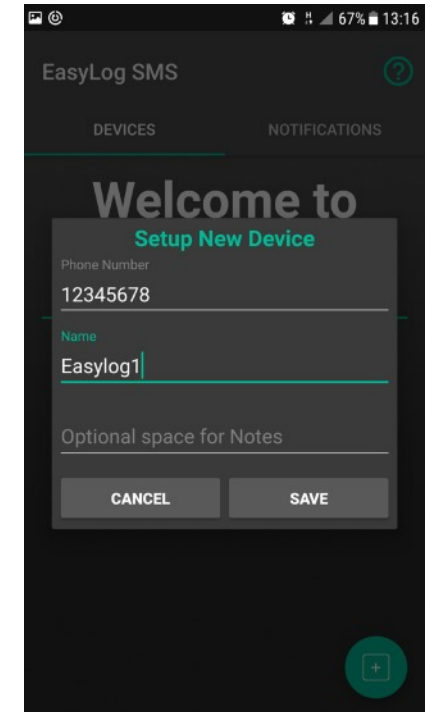

Fig. 2
4. Input the ELSMS device mobile number. Optionally add a device name and notes regarding the device’s location, use etc. then press “Save” (see Fig. 2).